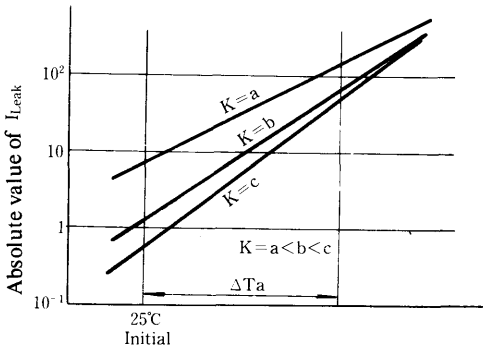

Fig. 23
Similarly to equation (1) above, the temperature coefficient is based on stable operation of a device. However, silicon – for example – includes variations such as K = 0.05 – 0.08 due to measuring voltage conditions; thus, K is substantially affected by the value of initial leakage, as shown in Fig. 23.